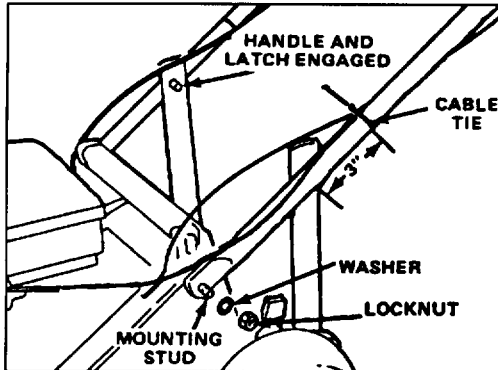

Figure 1
1. Spread handle ends and slide onto mower housing mounting studs (Fig. 1).
2. Secure each side of handle to mounting studs with a washer and locknut (Fig. 1).
3. Spring handle latches inward. Move handle up or down to snap handle studs into middle hole on both latches (Fig. 1).
5. Secure control cables to each side of handle approximately 3" above handle stud with cable tie (Fig. 1).